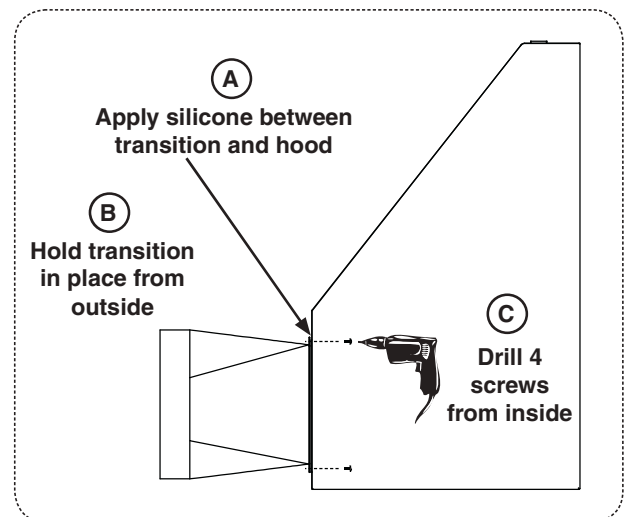

Fig. 12-2 Install transition
2. Apply a bead of silicone along the bottom of the mounting flange of the transition before installation (see Fig. 12-2, A).
3. Position the transition in place and secure using a power drill with a 1/4" hex driver (or a 1/4" nut driver) and the (4) supplied #6 x 3/8" hex head screws. Reach into and fasten the screws from inside the vent hood. (An additional person should hold the transition in place while it is being fastened.) See Fig. 12-2, B-C.